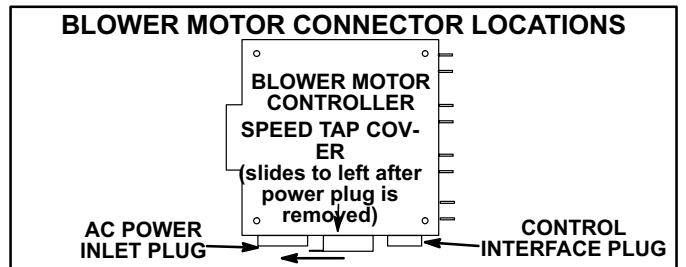

FIGURE 38
- 4- Slide tap cover toward AC power plug. See figure 38.